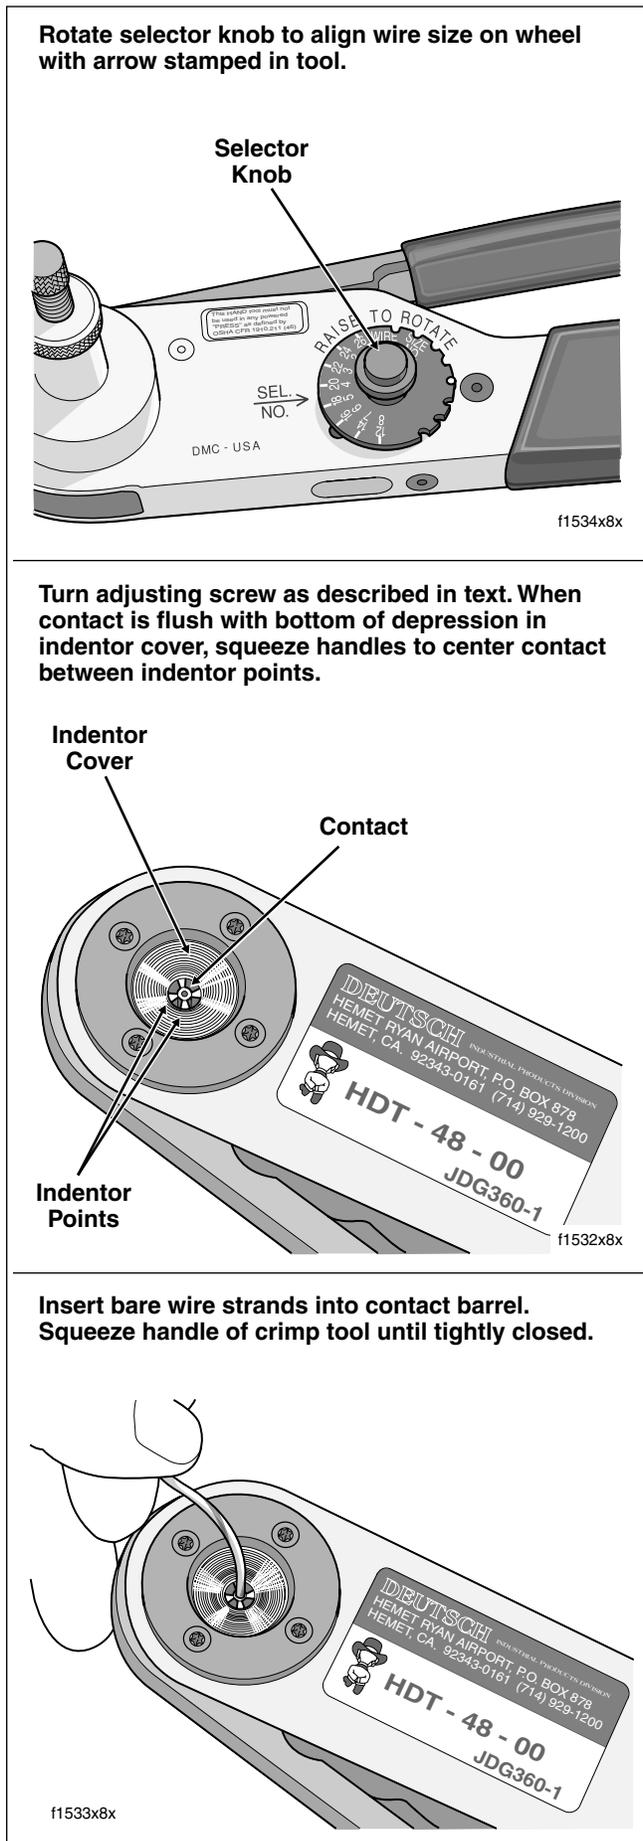

Figure 8-9. Deutsch Solid Barrel Contact Crimping Procedure
- Raise selector knob and rotate until selected wire size stamped on wheel is aligned with "SEL. NO." arrow. See upper frame of Figure 8-9.
- Slowly squeeze handles of crimp tool until contact is centered between indenter points. See middle frame of Figure 8-9.
- Insert bare wire strands into contact barrel. See lower frame of Figure 8-9.